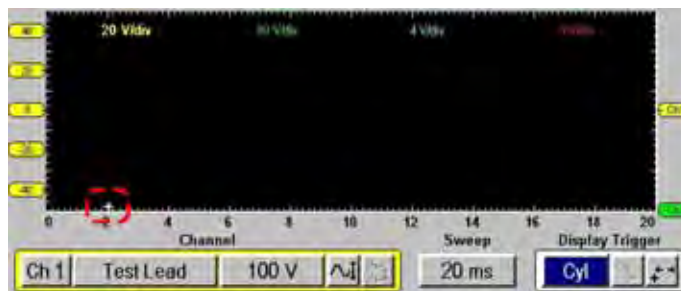

Figure 4-60 Sample Cyl Trigger Position marker
- If the Cyl trigger is selected, a white plus-sign (+) displays along the bottom of the graph area which represents the point in time and the level at which a cylinder will be triggered (Figure 4-60).